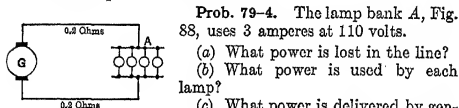

FIG. 88. Not all the power delivered by the generator is received by the lamps.
**Prob. 79-4.** The lamp bank *A*, Fig. 88, uses 3 amperes at 110 volts.